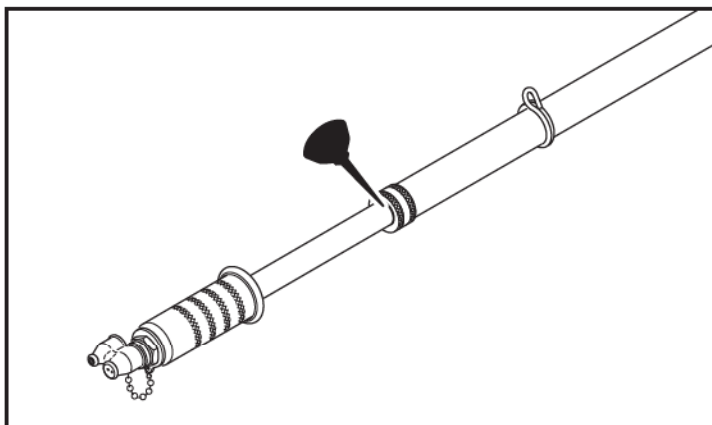

Figure 9. Pump Lubrication
2. Apply a few drops of light oil or grease at the gland nut to ease the pump operation. See Figure 9.